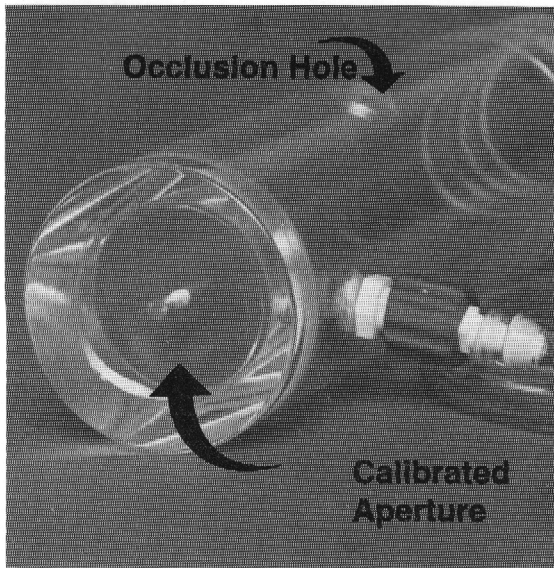

Figure 3. Mouth Assembly Apertures
During the maneuvers be certain that the calibrated aperture at the end of the mouth assembly is not blocked. (See Figure 3). It must remain open throughout the test to ensure correct results.
4. Place your finger over the occlusion hole in the mouth assembly (see Figure 3) and instruct the patient to blow out as forcefully as possible. The number on the digital display will get larger as the expired pressure increases. Encourage the patient to continue forcing out his breath until he has pushed the reading as high as possible.
4. Place your finger over the occlusion hole in the mouth assembly (see Figure 3) and instruct the patient to inhale as forcefully as possible. The number on the digital display will increase in the negative direction. Encourage the patient to continue inhaling as long and as hard as possible.